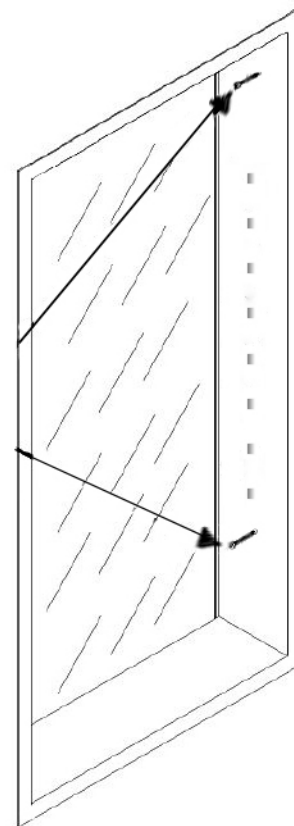

Fig. 4
4. For drywall/wood stud applications insert wood screws into pre-drilled mounting holes located on the interior sides of the cabinet. (Pro-tip do not overtighten with this will wrack the cabinet) use a level to test that the cabinet is plumb. (Figure 4)